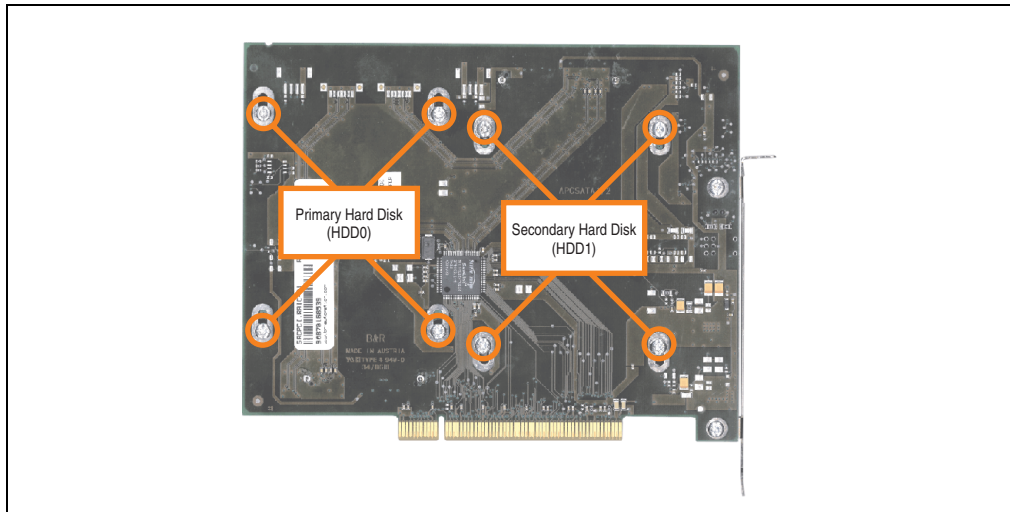

Figure 370: Screw assignment on the back side of the SATA RAID controller
- Loosen the 4 appropriate mounting screws (M3x5) - see Figure 370 "Screw assignment on the back side of the SATA RAID controller", on page 661.